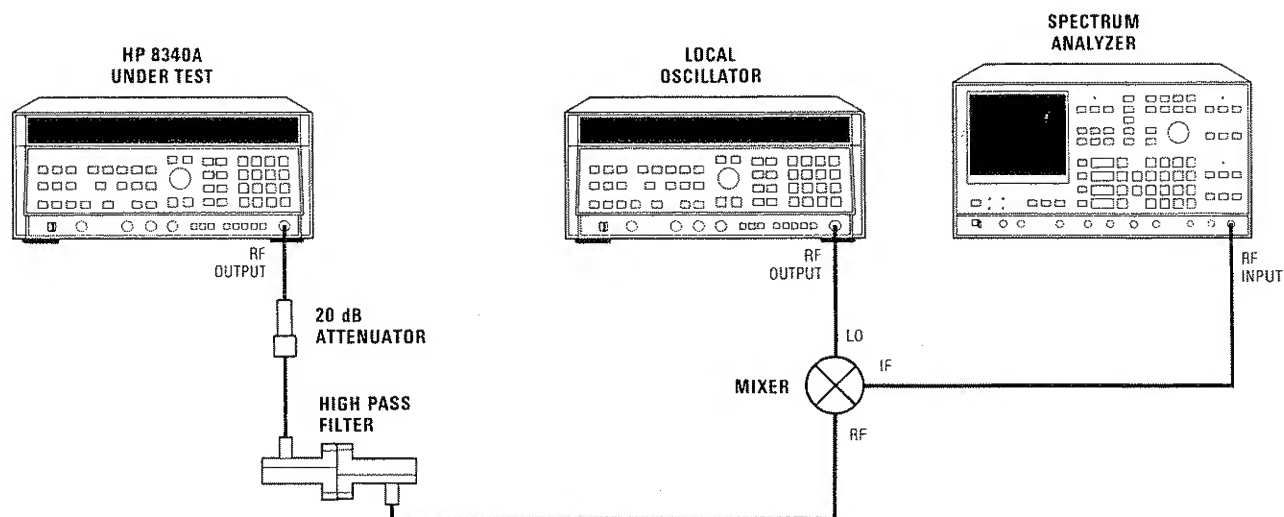

Figure 4-8. Spurious Signals Test Setup (22 to 26.5 GHz)
1. Connect equipment as shown in Figure 4-8. Allow at least a 30 minute warm up time. Press the Local Oscillator 8340A **[INSTR PRESET]** and **[PEAK]** on.